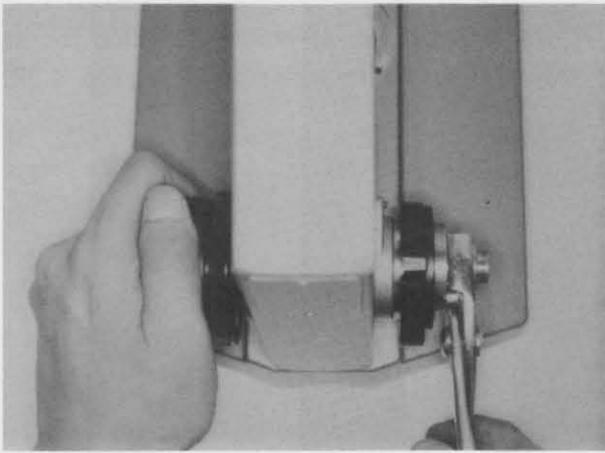

Fig. 4-23
- (2) With the bearing depressed lightly to the microscope stand by hand, tighten the right coarse adjustment knob by turning it clockwise. Finally, tighten it firmly while holding the bearing with pliers or the similar tool. (See Fig. 4-23)